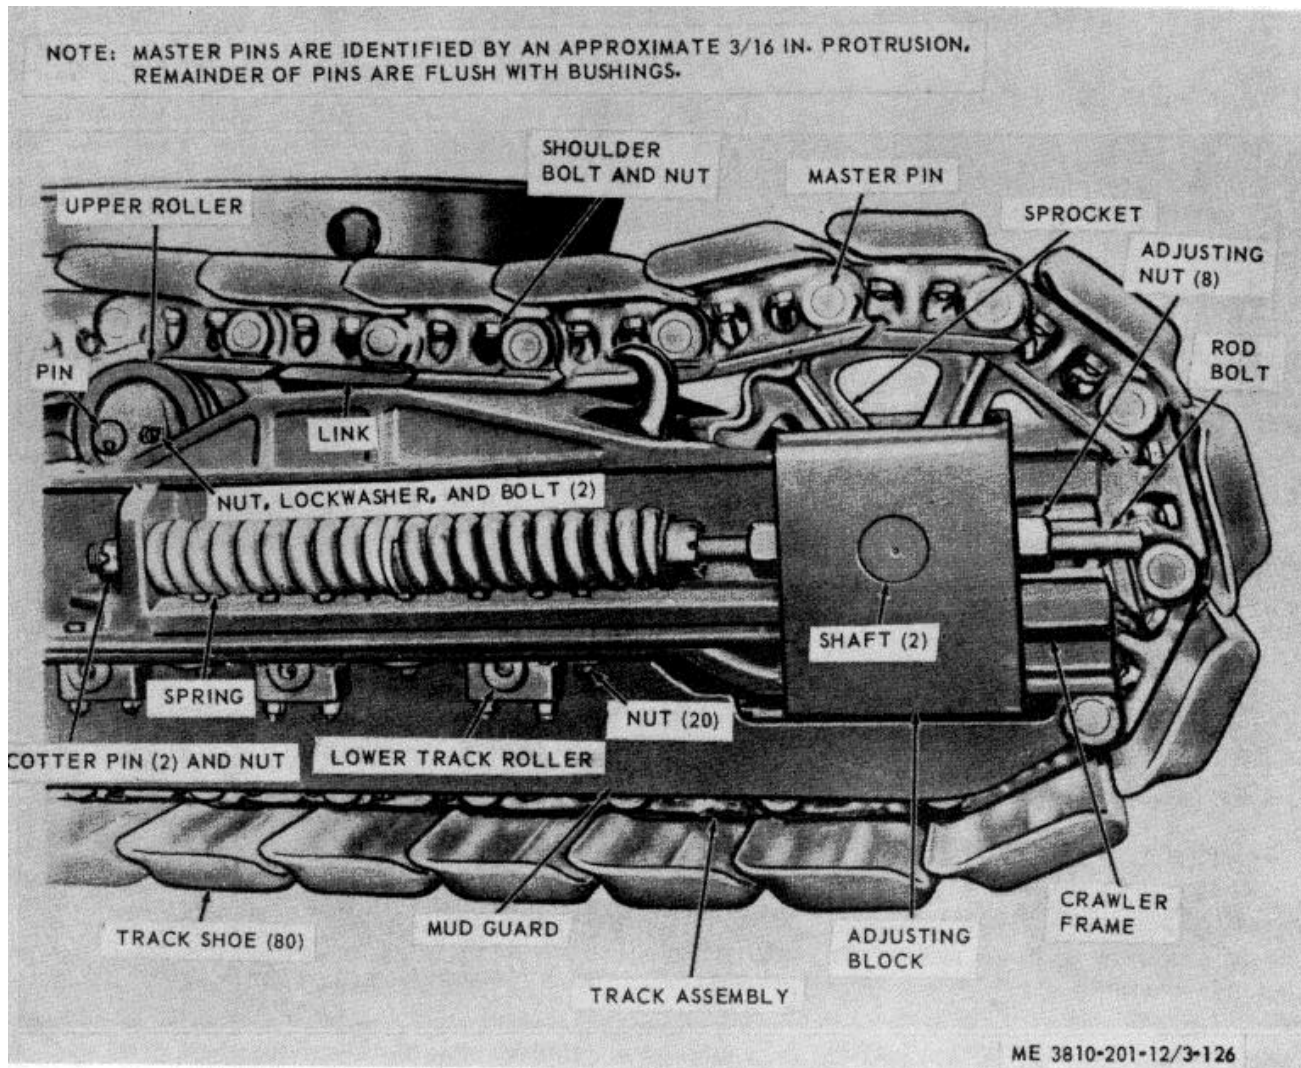

Figure 3-126. Track, removal and installation.
(1) Travel crane-shovel unit to firm ground that is as level as possible, and stop with one of the master pins (fig. 3-126) at one end of crawler frame.
(2) Drive out master pin, then remove spacer and master bushing from link.
(3) Travel crane-shovel unit slowly away from removed master pin until the track is flat on the ground.
(4) Position suitable jack under crawler frame on the side where track is being removed and raise crawler frame until track is free of lower track roller and sprocket.
(5) Pull the track assembly from under the crane-shovel unit.
(1) Provide slack for removal of upper support rollers by loosening the adjusting nuts (fig. 3-126) on rod bolt.
(2) Remove two nuts, lockwashers, and bolts from roller pin.
(3) Raise track assembly with a long pry bar, insert blocking between track and crawler frame to provide clearance for removal of roller.
(4) Drive out pin and remove roller.
(5) Remove remaining rollers in a similar manner.
(6) Install in reverse order.
(7) Adjust track (para 3-41).
(1) Remove cotterpin and nut (fig. 3-126) from end of rod bolt. Remove cotterpin from nut at end of spring, and move nut toward adjusting block until tension on springs is relieved.
(2) Remove adjusting nut at end of rod bolt and backoff the one on other side of adjusting block until rod bolt will come out of bracket at end of springs.
(3) Remove rod bolt from bracket, pull rod bolt out of adjusting block, then remove and separate the two springs.
(1) Remove track (para 3-141).
(2) Remove 20 nuts (fig. 3-126) then remove mud guard.
(3) Remove remaining mud guard in similar manner.
(4) Install in reverse order.